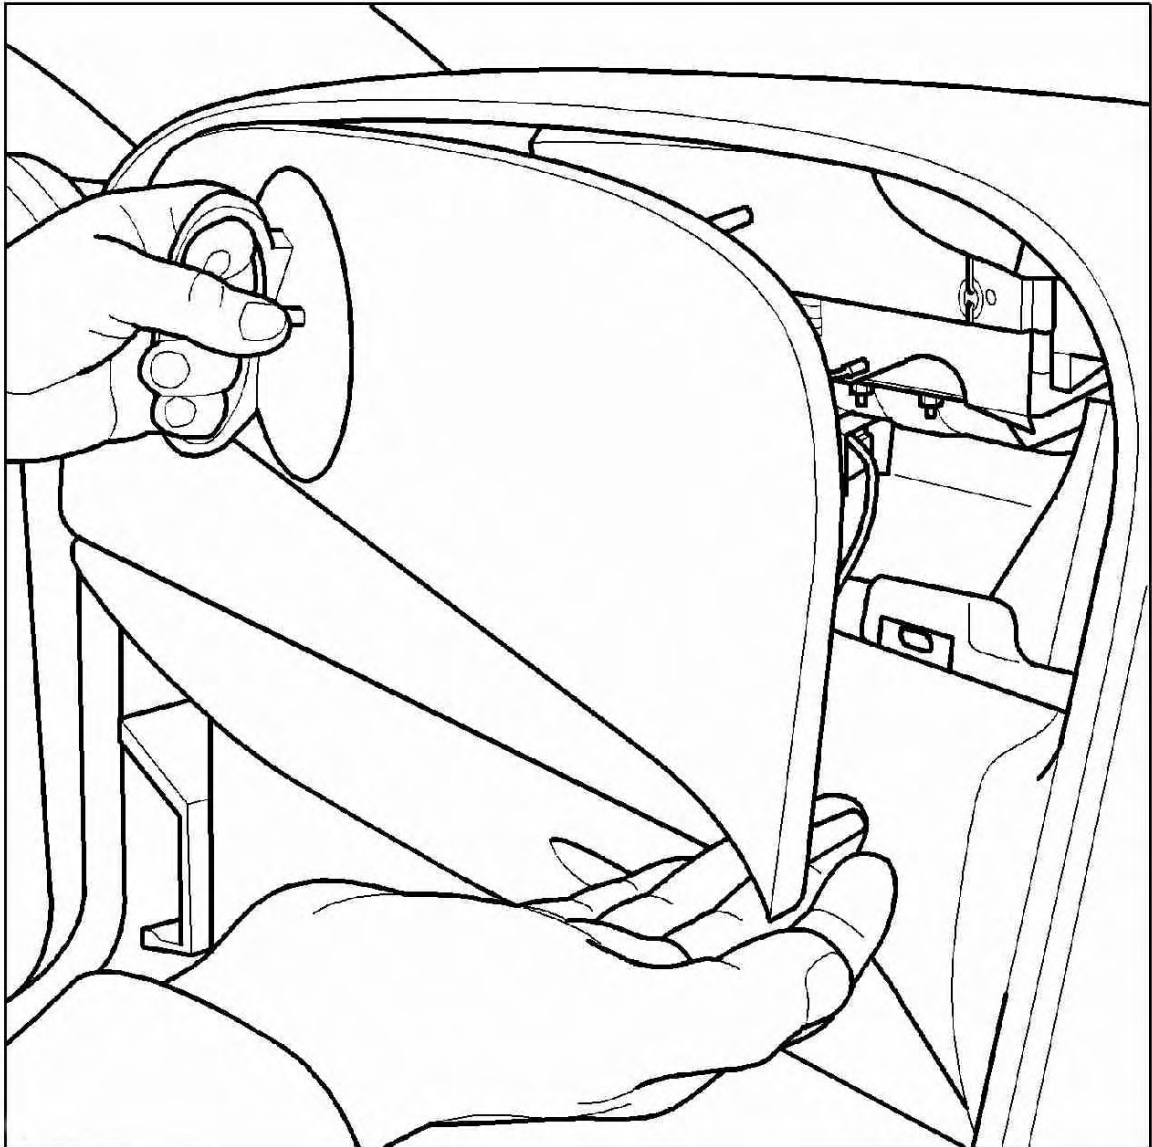

Figure 1
- Attach a suction cup tool to the facia panel (see Figure 1)